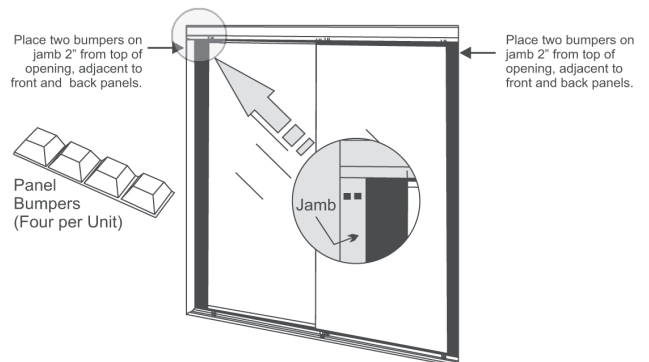

FIGURE 10
Doors are shipped with four (4) panel bumpers to provide a cushion between the door panel and jamb for maximum quiet operation. **Install:** Detach bumpers from strip and attach on jamb where the edge of mirror panel(s) and jamb(s) meet. Attach two (2) bumpers in the **TOP CORNERS** of the opening. Bumpers should be about 2" (51) from the top of the opening. This will accommodate the full bypass function of the panels. (Figure 10)